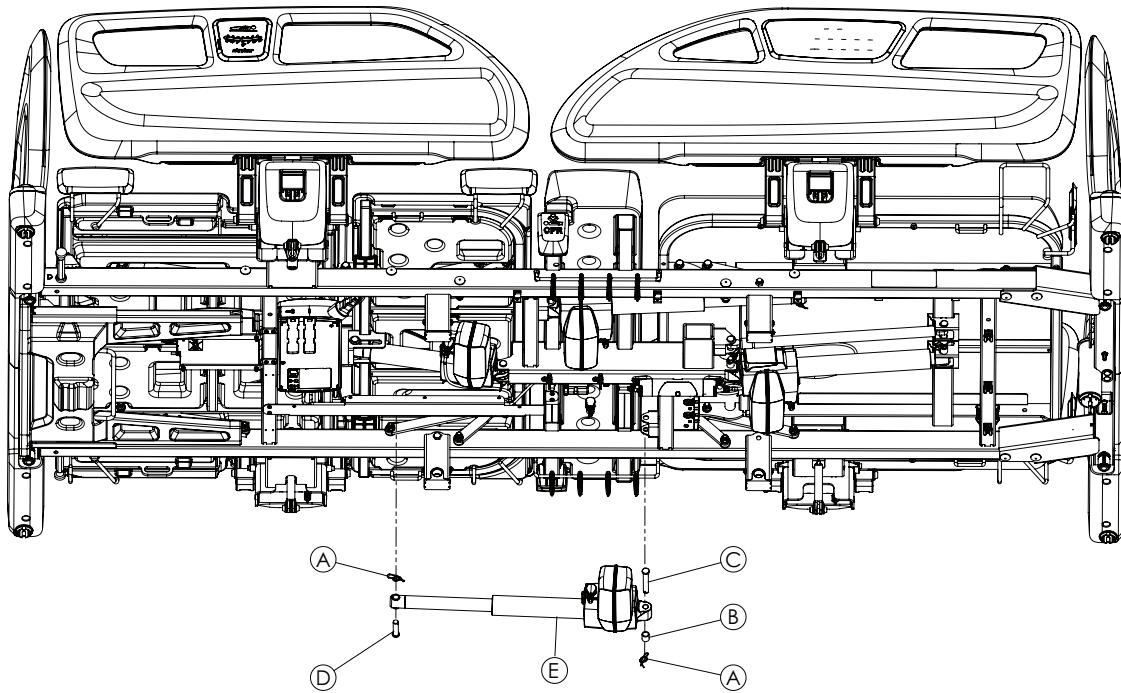

Figure 13 – Lift actuator, foot end
6. Using needle nose pliers, remove the clevis cotter pins (A) from each clevis pin (Figure 13). Discard the clevis cotter pins.
7. Using one hand, support the foot end lift actuator (E). Remove the foot end clevis pin (D). Discard the foot end clevis pin. Allow the foot end lift actuator to pivot down.
8. Using one hand, support the foot end lift actuator (E). Remove the head end clevis pin (C) and spacer (B). Discard the head end clevis pin and spacer.